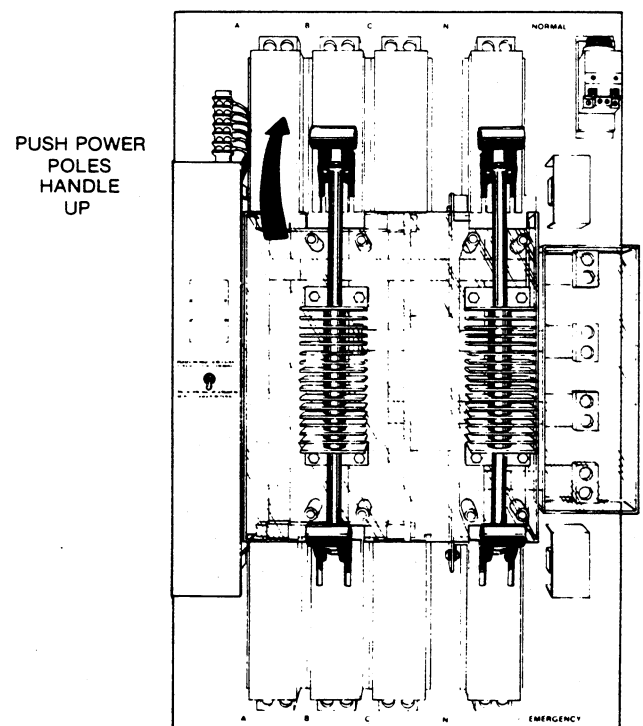

FIGURE 10.
3. Push the upper power pole handle up, as in Figure 10, connecting the load to the normal power source. This completes the manual retransfer switching sequence.